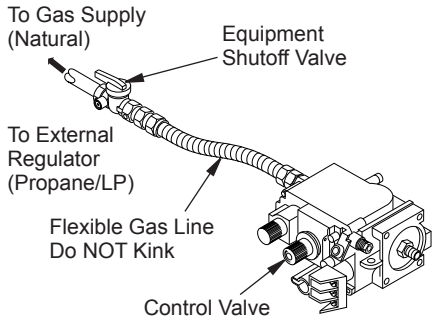

Figure 24 - Connecting Flexible Gas Line to Millivolt Valve
3. Attach flexible gas line from gas supply to the 1/2" flare fitting provided on the control valve (see Figure 24).